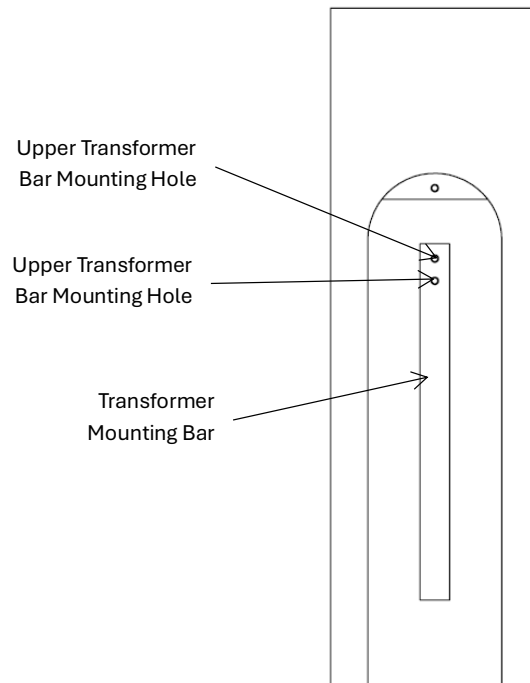
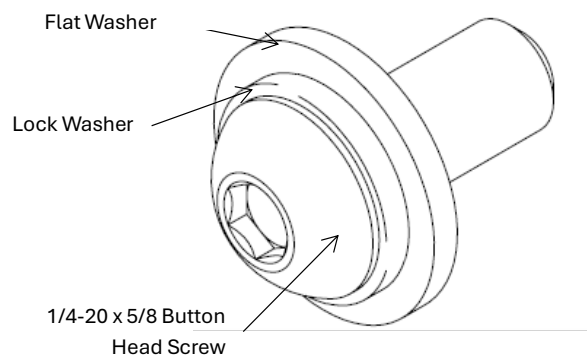

Fig. 12.1-2: Transformer Bar for Mounting Control Unit
Fig. 12.1-5: Control Unit Mounting Hardware Sequence
2. Obtain (1) one of the 1/4-20 x 5/8 button head screws for mounting the control unit. Loosely install it into the lower threaded hole of the transformer mounting bar in the hand hole of the pole (refer to Figure 12.1-2). This screw will help hold the control unit in place while the other fastener is being installed.
5. Install (1) one 1/4-20 x 5/8 button head screw, lock washer and flat washer (in specified order, refer to Figure 12.1-5) into the upper transformer bar mounting hole (refer to Figure 12.1-2) to fasten the control unit to the transformer bar.
6. Uninstall the previously loosely installed 1/4-20 x 5/8 button head screw in the lower transformer bar mounting hole. Reinstall that screw along with the lock washer and flat washer (in specified order, refer to Figure 12.1-5).